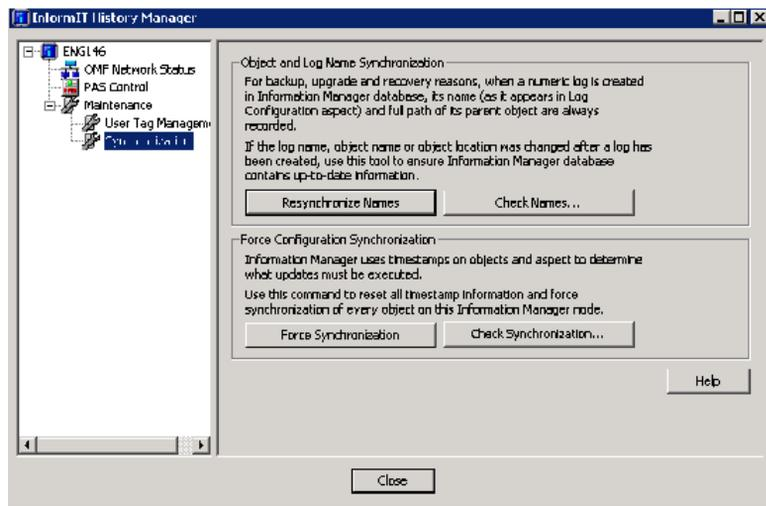

Figure 75. Inform IT History Manager
5. Expand the Maintenance tree in the Preview Area and select Synchronization. The Inform IT History Manager shown in Figure 75 appears in the Preview Area.